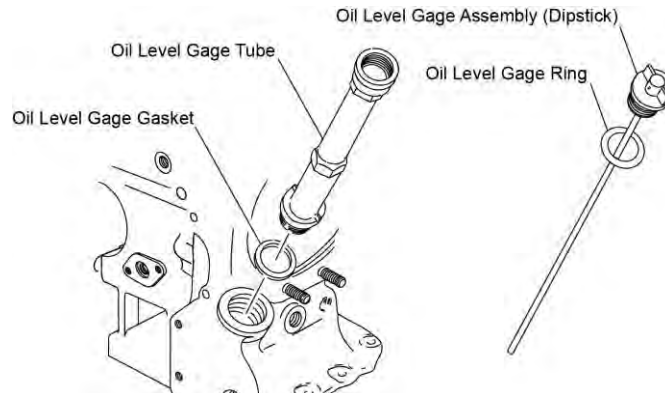

Figure 1
- (1) Pull out the oil level gage assembly (dipstick) from the oil level gage tube (Figure 1).
- (1) Pull out the oil level gage assembly (dipstick) (Figure 1) from the oil level gage tube.
- (2) Add either new clean mineral oil (if within the first 50 hours of operation of a new, rebuilt, or overhauled engine) or specified oil of the correct viscosity for the ambient temperature (identified in Appendix A in the ***IO-390-C Series Engine Installation and Operation Manual***) to the oil sump through the oil level gage tube.
- (3) Measure the oil level per the “Oil Level Check” procedure in this chapter. Add more oil if necessary until the oil level in the engine is sufficient.
- (4) Install the oil level gage assembly (dipstick) into the oil level gage tube securely.